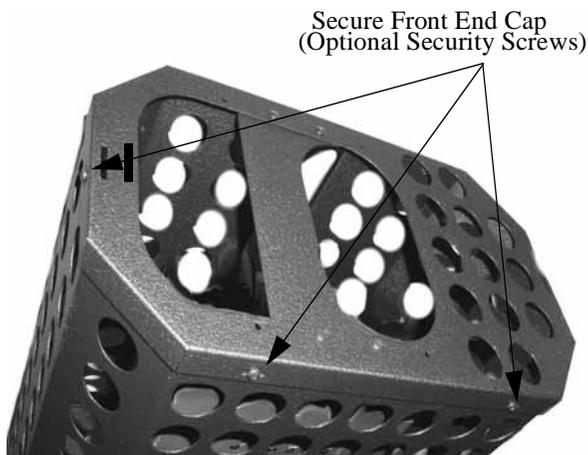

Figure 6. Install Front End Cap
7. Install front end cap, with lens cover attached, on the projector cage and secure using six 10-24 X 3/8"(optional security) Phillips head screws (see Figure 6).
6. Install front end cap, with lens cover, on the projector cage and secure using six 10-24 X 3/8" (optional security) Phillips head screws (see Figure 6).